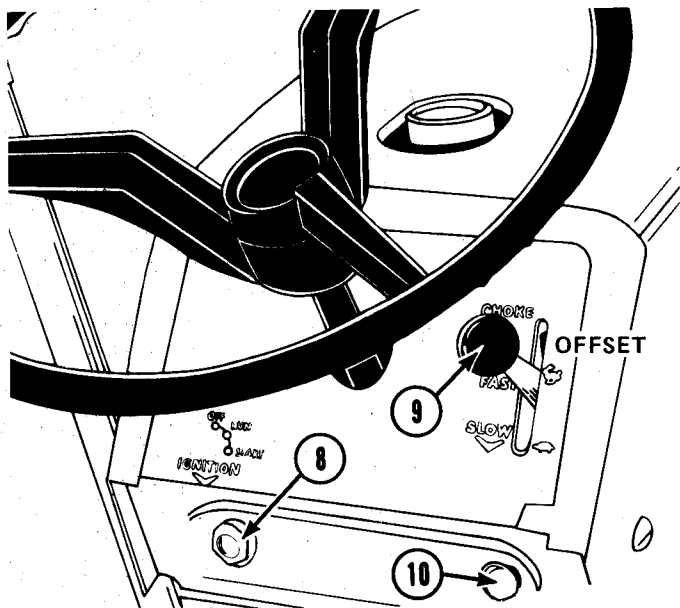

Figure 6
8 IGNITION AND STARTER SWITCH — Figure 6
9 THROTTLE-CHOKE CONTROL LEVER — Figure 6
10 LIGHT SWITCH (Optional) — Figure 6
5. Raise throttle choke control lever (9), Figure 6, past the offset in the slot to the "choke" position.
6. Turn ignition key (8) shown in Figure 6 clockwise all the way. Release key as soon as the engine starts and gradually lower the throttle-choke control lever past the offset until the engine runs at 1/2 throttle.